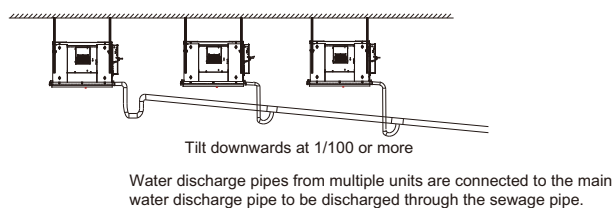
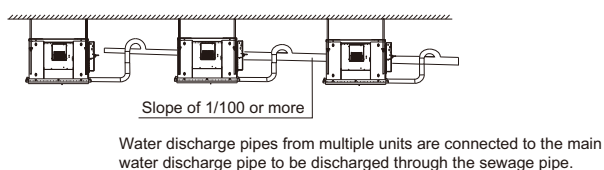

Figure 5.2a (without a water pump)
Figure 5.2b (with a water pump)
7. Install the water discharge pipes as shown in Figure 5.2a (without a water pump) and Figure 5.2b (with a water pump). The water discharge piping outlet should not be higher than the water discharge height, ensuring a downward slope of more than 1/100.